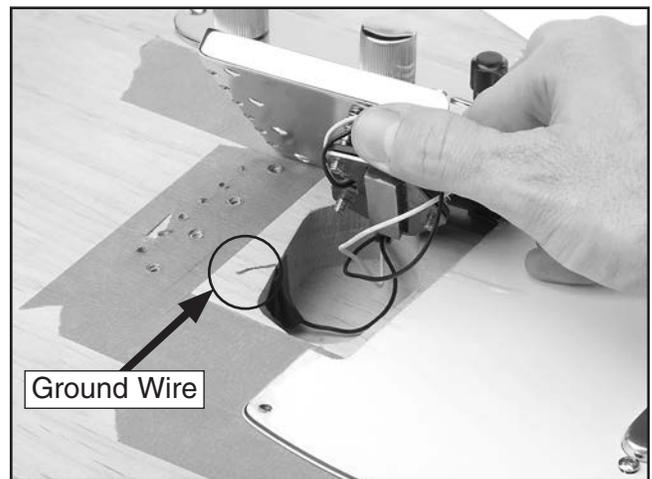

Figure 22. Ground wire above bridge cavity.
1. Place the exposed end of the ground wire above the bridge cavity (see **Figure 22**), and place the bridge over it so the bridge and wire make contact.